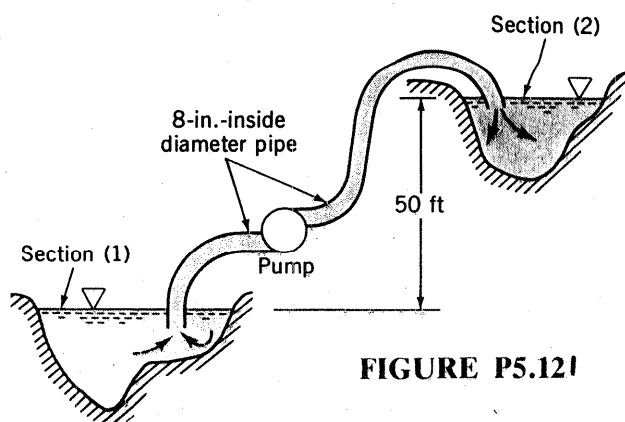

FIGURE P5.121
5.121 Water is to be moved from one large reservoir to another at a higher elevation as indicated in Fig. P5.121. The loss in available energy associated with $2.5 \text{ ft}^3/\text{s}$ being pumped from sections (1) to (2) is $61\bar{V}^2/2$ where \bar{V} is the average velocity of water in the 8-in.-inside diameter piping involved. Determine the amount of shaft power required.